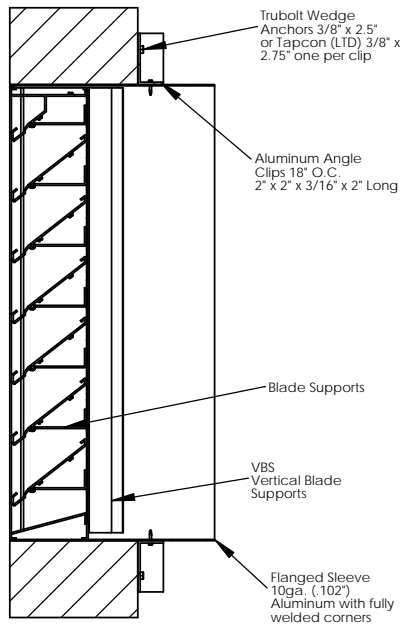

Fig. 3 - DC-638-3
1. **Anchoring into Concrete or Masonry:** See **Fig. 3** Model **DC-638-3** for detailed instructions.